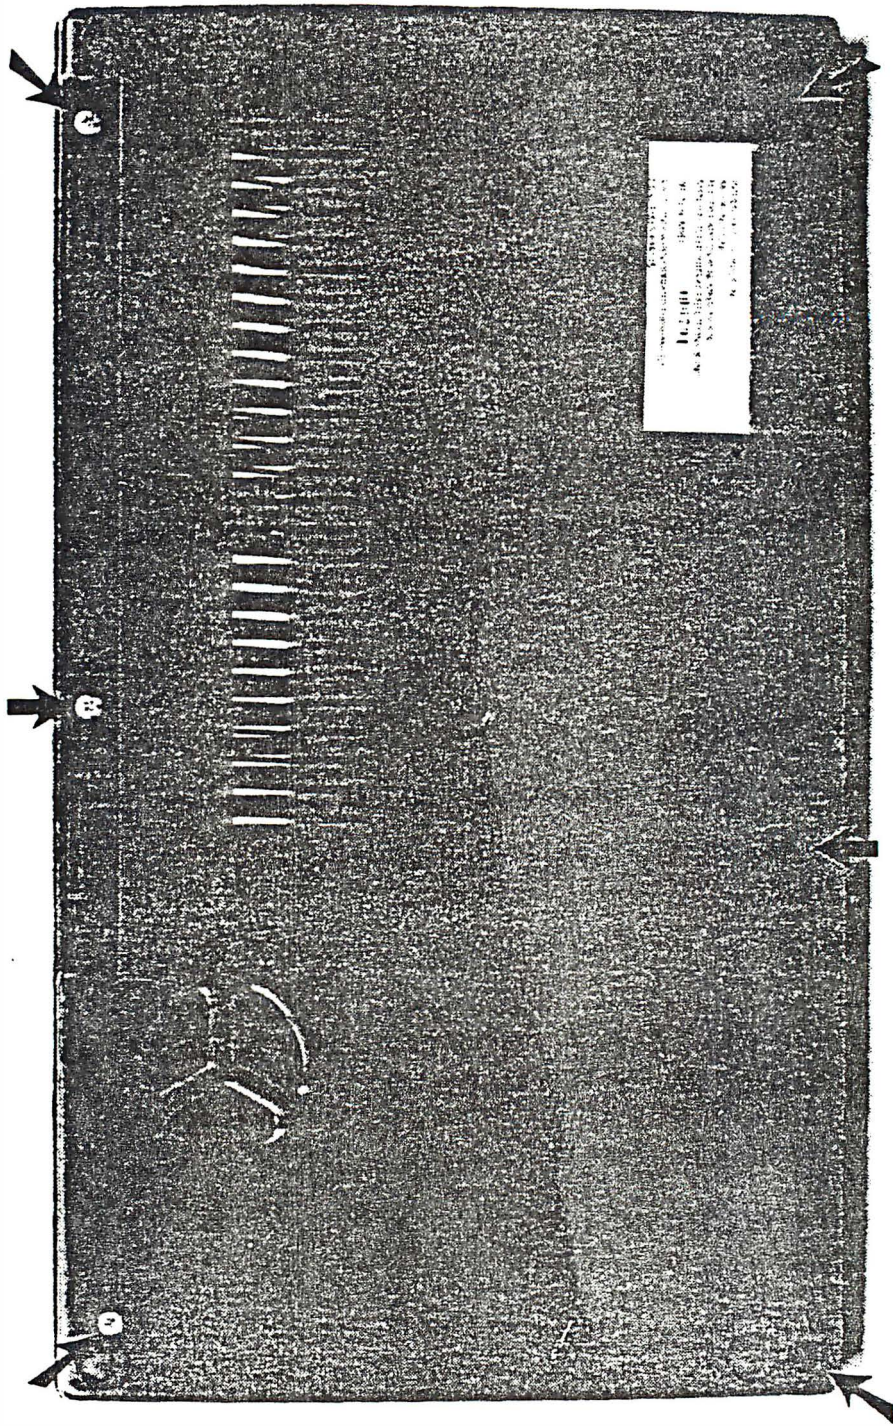
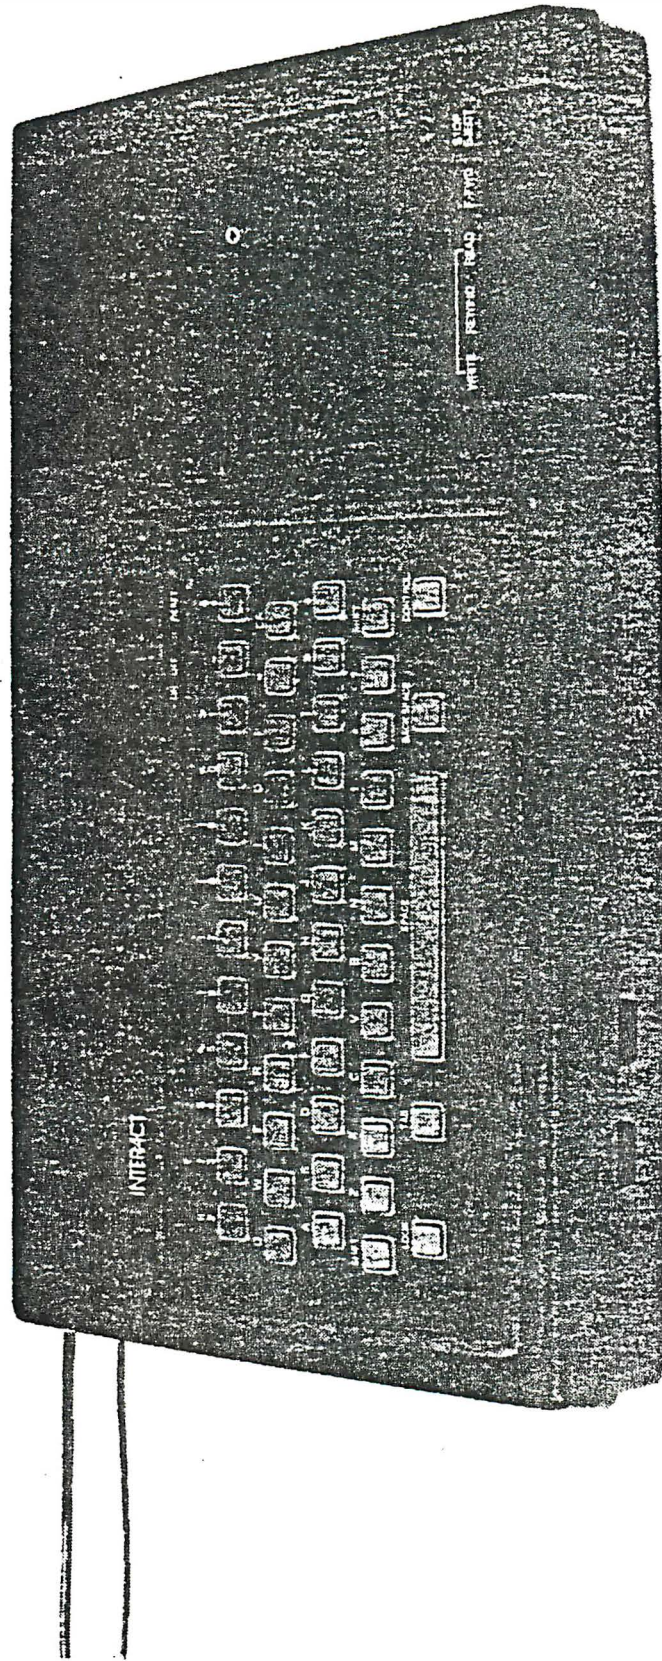

FIGURE 2--Lower Housing Assembly
FIGURE 3--Model One - Upper Assembly Closed
4. Lower housing sub-assembly (Figure 2)
5. Upper housing sub-assembly (Figures 3,4 and 5)
1. Turn the Interact unit over so that the bottom of the lower assembly is showing, as in Figure 2. Place it on a soft surface to avoid marring the unit.
2. Remove the six (6) screws at the corners and top and bottom center of the lower housing.
3. Carefully holding the top and bottom assemblies together, turn the unit back over so that the control panel is up, as in Figure 3.